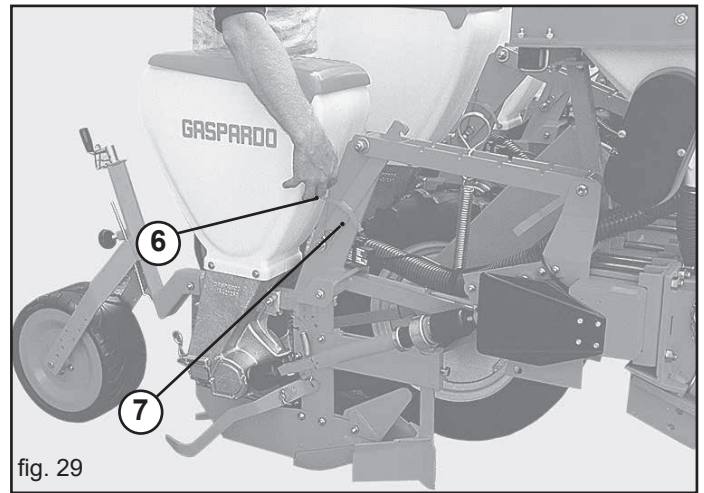

fig. 29
- Hook the spring the position 6 (Fig. 29),
- Hook the spring the position 7 (Fig. 29);